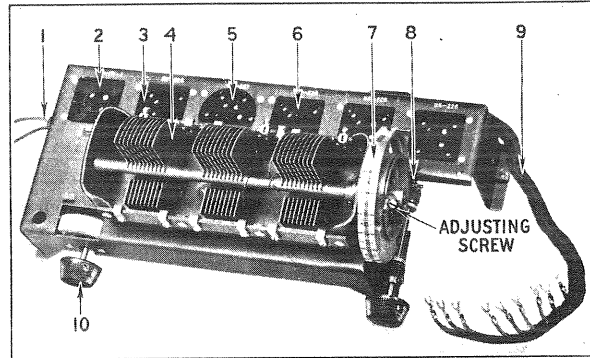

Fig. 2—Top View of Radiola
2. **STATION SELECTOR**—The three tuning condensers are controlled from the station selector knob which operates the drive mechanism. Any slack in the condenser drive cable can be taken up by tightening the adjusting screw shown in Fig. 2.
- Adjusting compensating condenser, as shown in Fig. 7, by means of the neutralizing screw driver shown in Fig. 2 of Supplement to Victor Service Bulletin No. 5-A. The following procedure should be used: